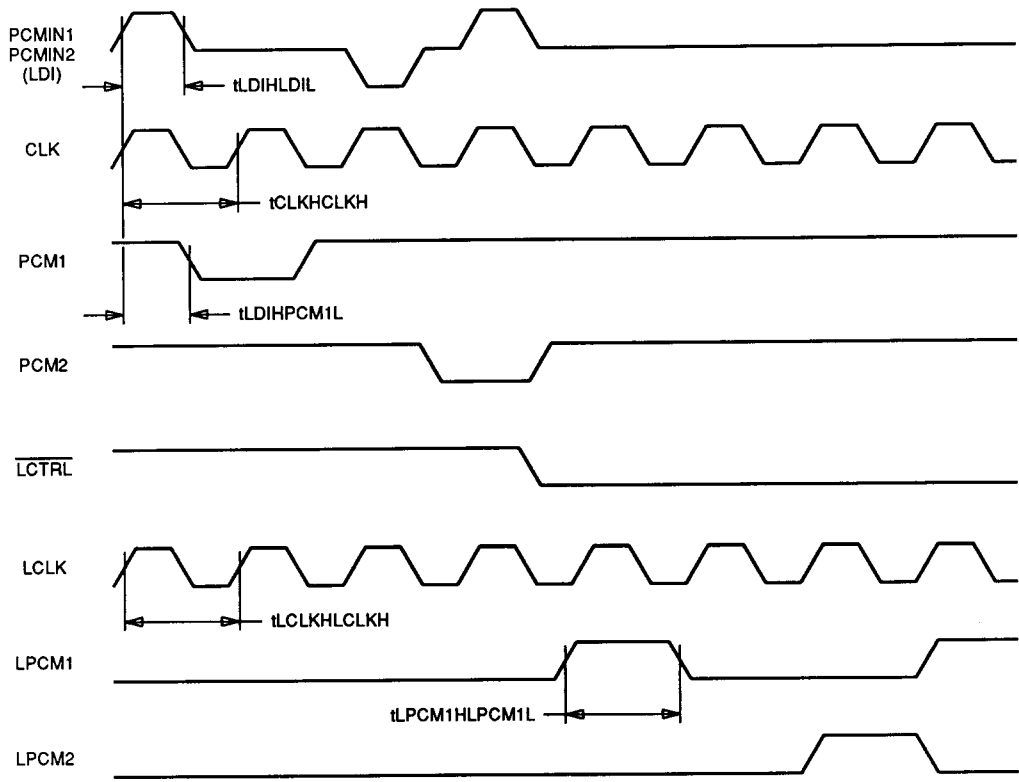

Figure 5. Loopback Mode I/O Format
**Table 3. Loopback Mode I/O Format** (See Figure 5)